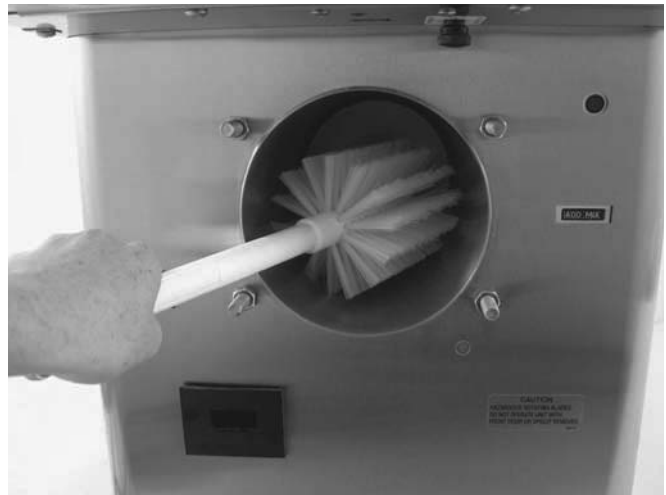

Figure 3-7 Cleaning Freezing Cylinder
- E. Wash the hopper and freezing cylinder with the 90° to 110°F (32° to 43°C) cleaning solution and brushes provided (Refer to Figure 3-7).